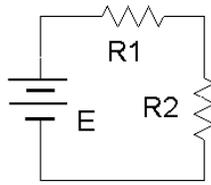

Figure 2
6. Build the circuit of figure 2 using  $E=10\text{ V}$ ,  $R1=10\text{ k}\Omega$  and  $R2=33\text{ k}\Omega$ . Connect a probe from the channel one input to the power supply (red or tip to the positive terminal, black clip to ground). Connect a second probe from channel two to  $R2$  (again, red or tip to the high side of the resistor and the black clip to ground).